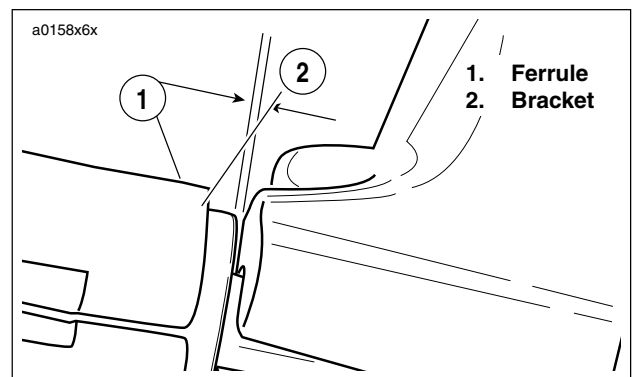

Figure 6-15. Adjusting Clutch Freeplay
5. Remove spring (4) and lockplate (5). Turn adjusting screw (6) counterclockwise until it lightly bottoms.
6. Turn adjusting screw (6) clockwise 1/4 turn. Install lockplate (5) and spring (4) on adjusting screw flats. If hex on lockplate does not align with recess in outer ramp, rotate adjusting screw clockwise until it aligns.
- a. See Figure 6-15. Pull ferrule (1) (end of cable housing) away from bracket (2). Gap between ferrule and bracket should be 0.0625-0.125 in. (1.6-3.2 mm).